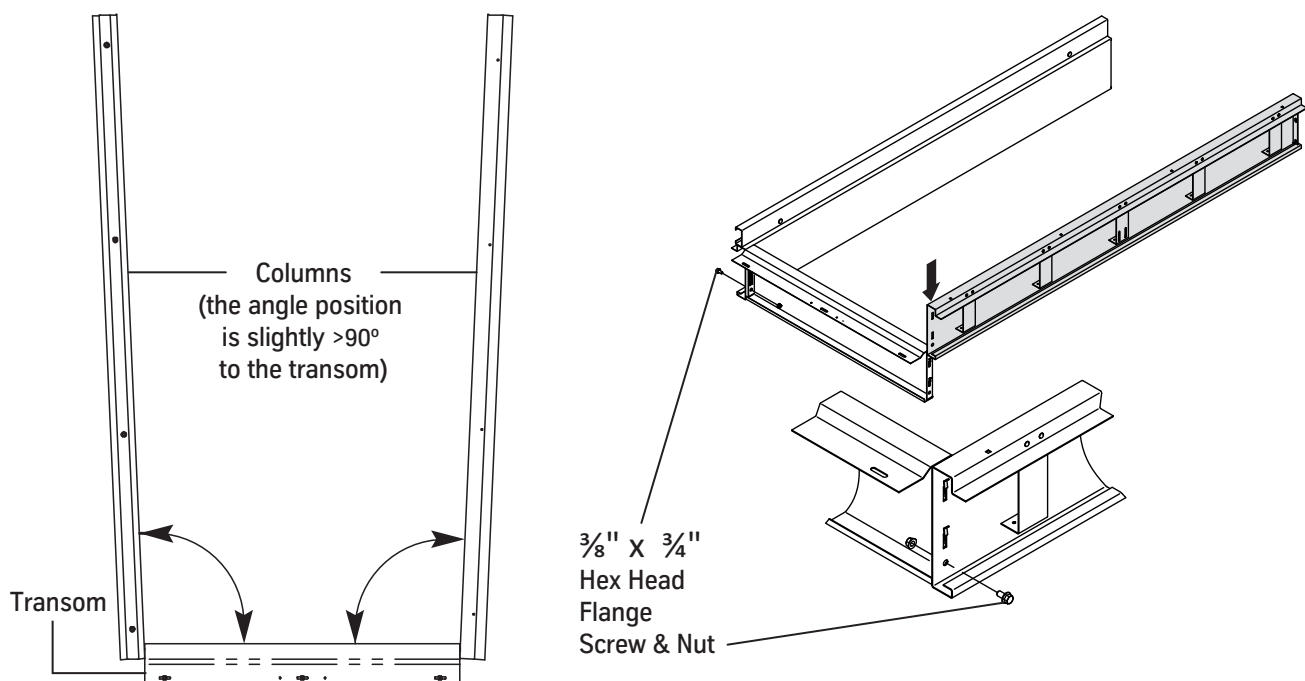

Figure 6 - Assemble the Frame
1. Place the entrance columns and transom face down, and position each column at a slight angle to the transom. See Figure 6.